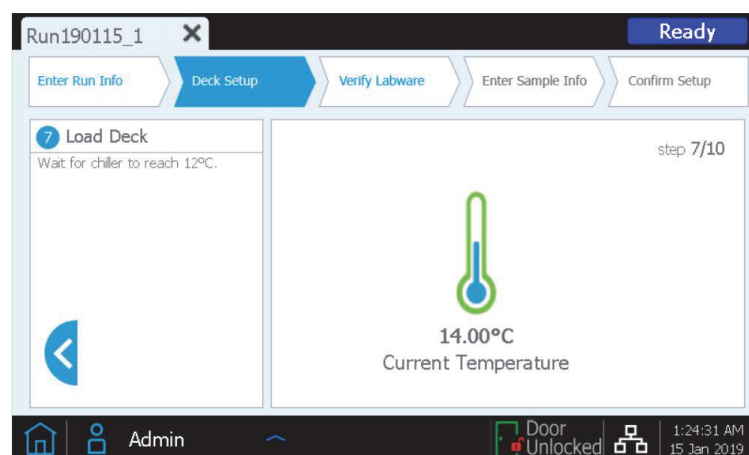

Figure 12. Step 7 of 10 of the *Deck Setup* screen of the Magnis NGS Prep equipment.
- Before proceeding to load the Magnis equipment, the cooling module of the instrument must reach a temperature of 12 °C. If said temperature has not been reached at this point, the touch screen will appear as shown in Figure 12. However, if the cooling module has not reached the necessary temperature, this screen will not appear.